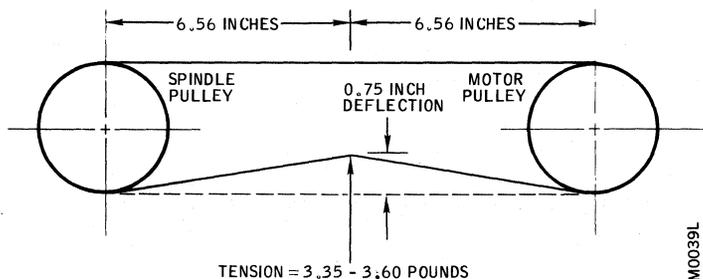

Figure 5-7. Drive Belt Tension
10. Move drive motor away from spindle until correct belt tension is achieved as follows (see Figure 5-7):